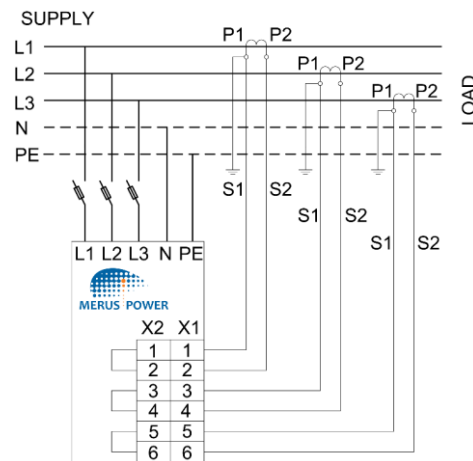
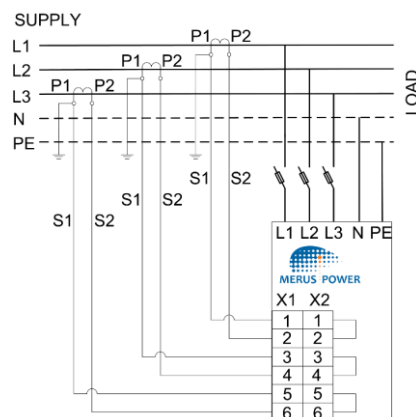

Figure 49: Open loop installation diagram
Figure 50: Closed loop installation diagram
- In the open loop connection, the current transformers are situated on the load side, as shown in Figure 49.
- In the closed loop connection, the current transformers are situated on the supply side, as shown in Figure 50.
In both cases (open or closed loop connection), the current signals are connected to the X1 terminal in the order shown in Figure 49 and Figure 50.
It is recommended that the current transformers be earthed on the current transformer side for safety purposes, as shown in Figure 49 and Figure 50. Current transformers should be earthed on the secondary side (S1 or S2) and on the same side for all current transformers.
For individual modules, the connection is made as in Figure 49 and Figure 50.